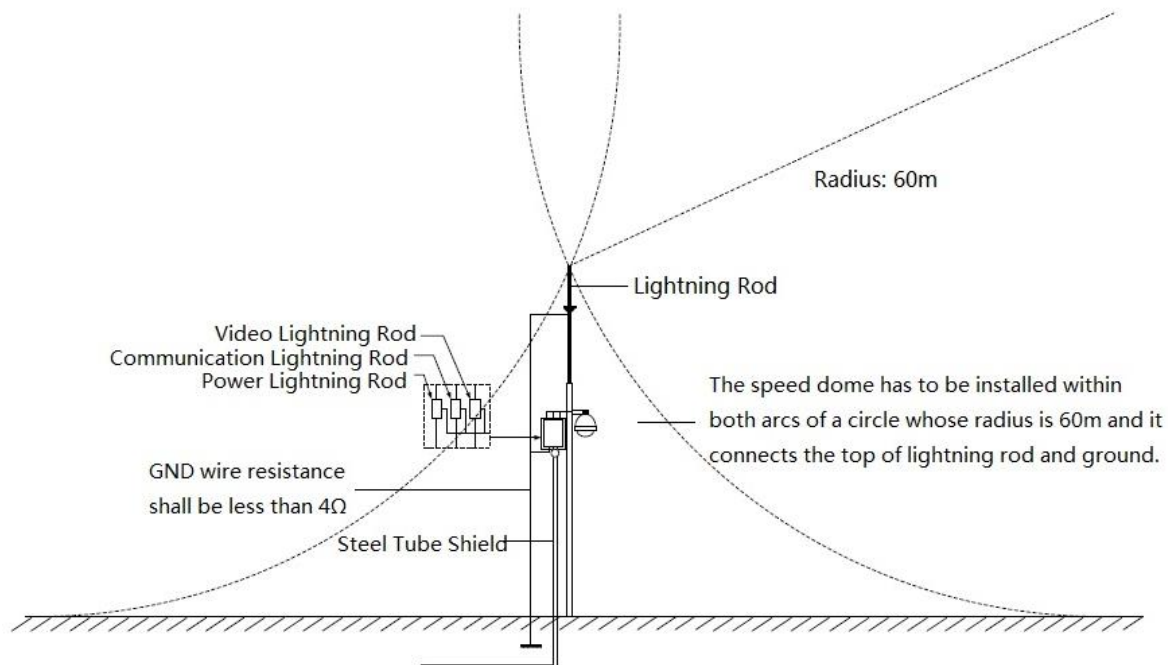

Figure 7-1
- System shall adopt equal-potential wiring. The earth device shall meet anti-jamming and at the same time conforms to your local electrical safety code. The earth device shall not short circuit to N (neutral) line of high voltage power grid or mixed with other wires. When connect the system to the earth alone, the earth resistance shall not be more than  $4\Omega$  and earth cable cross-sectional area shall be no less than  $25\text{ mm}^2$ . See Figure 7-1